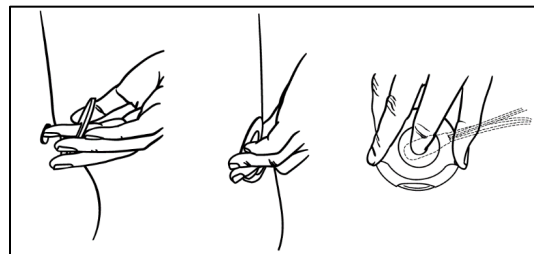

Figure 7 Locate Implant
3. Use your inserted index finger and locate the implant site, as shown in Figure 7.